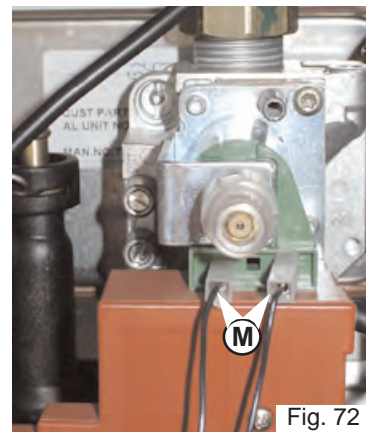

Fig. 72
2. Disconnect the wires from the main modulator coil "M" (see Fig. 72)